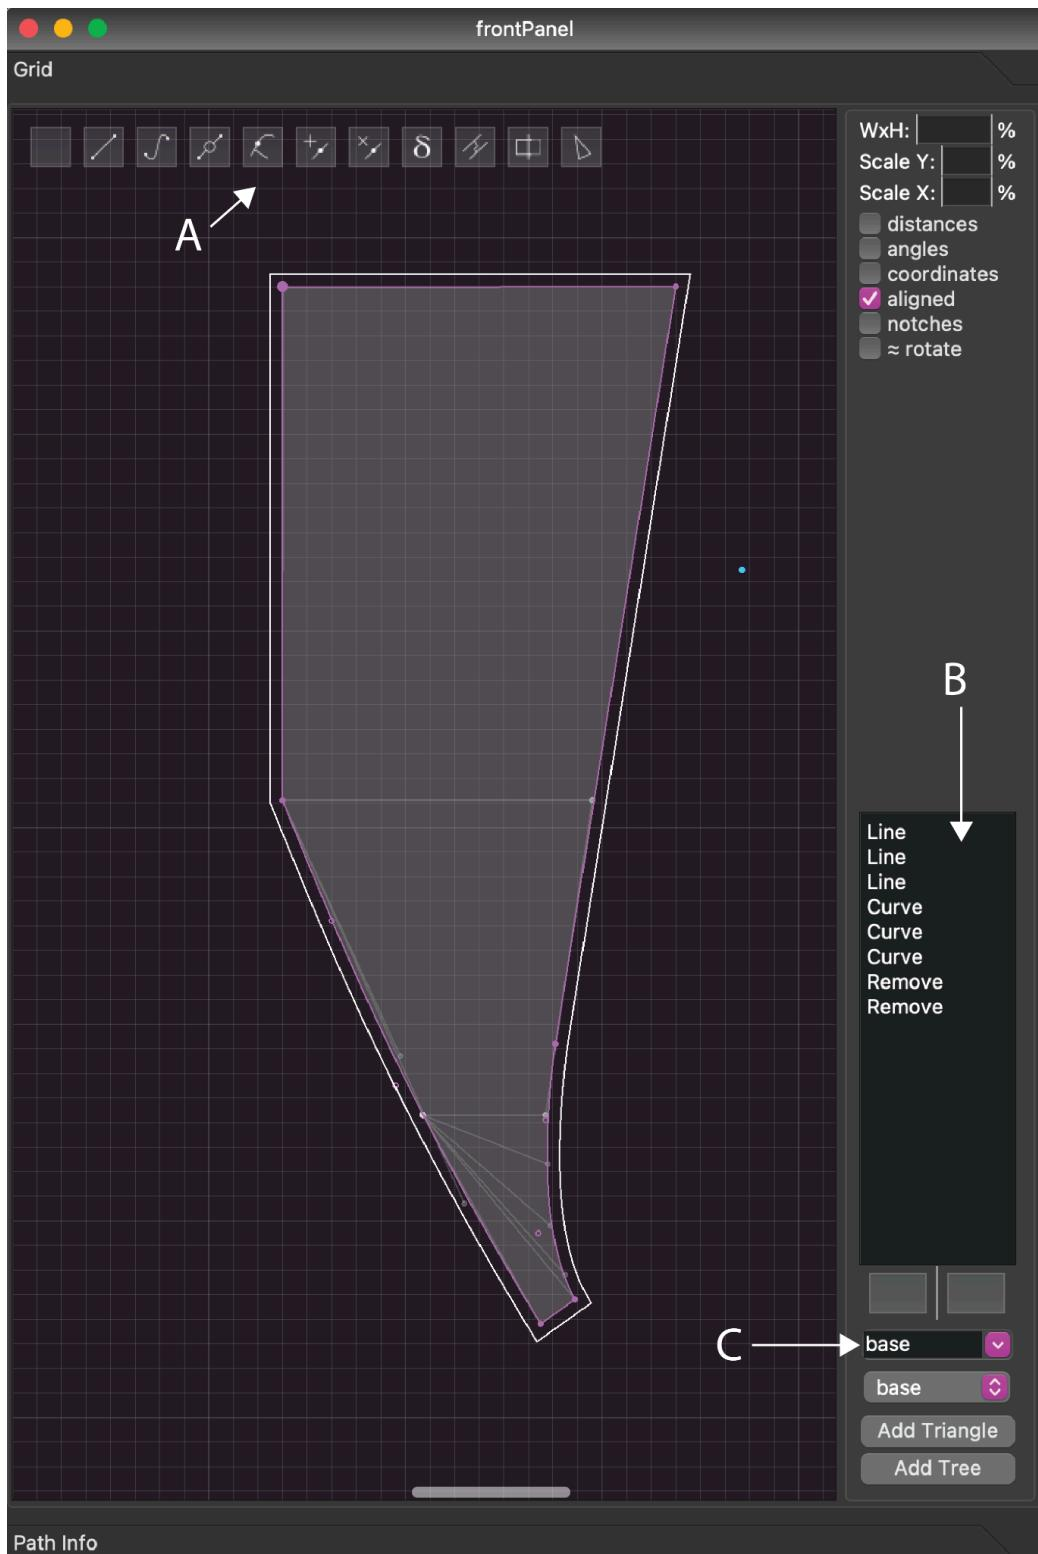

Figure 3. Component Window
The **Toolbar** (Figure 3 A) is at the top of the window, and is used to change the action done by the mouse. If you do not see it, press “T” on your keyboard. **Below are Toolbar actions:**
-  **Line:** used to create lines. Right clicking allows you to create a line based on height and width. This is especially useful for creating guidelines, as seen in Figure 3.
The history panel (Figure 3 B) shows all of the actions you have done to the path. Pressing "Command+Z" will undo your last input. Pressing "Command+Shift+Z" will redo your previous undo.
The layer textbox (Figure 3 C) allows you to select the current layer, and create new ones. To create a new layer, type the name within the textbox and press "Return/Enter."
3. In the grid menu on the right of the project window, select the layer textbox (Figure 3 C) and create a new layer with the word "tree" in it. If you do not see the grid menu at first, press "Y."